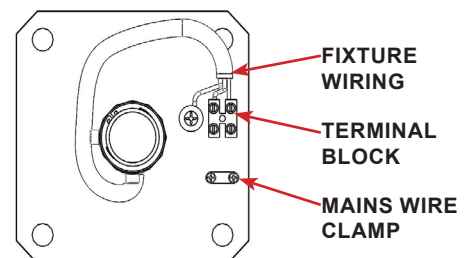

FIGURE 2.21 - Terminal Block
- STEP 6:** Route mains wiring into the base plate and through the cable clamp. Secure wiring leaving enough slack to reach the terminal block. Refer to FIGURE 2.21
STEP 8: Reconnect mains leads to the base terminals. Refer to FIGURE 2.21